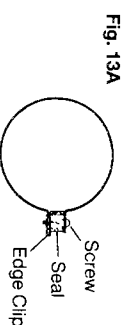

Fig. 13A
- 5.5.21** Assemble the large and small maintenance clips as show in fig 13A